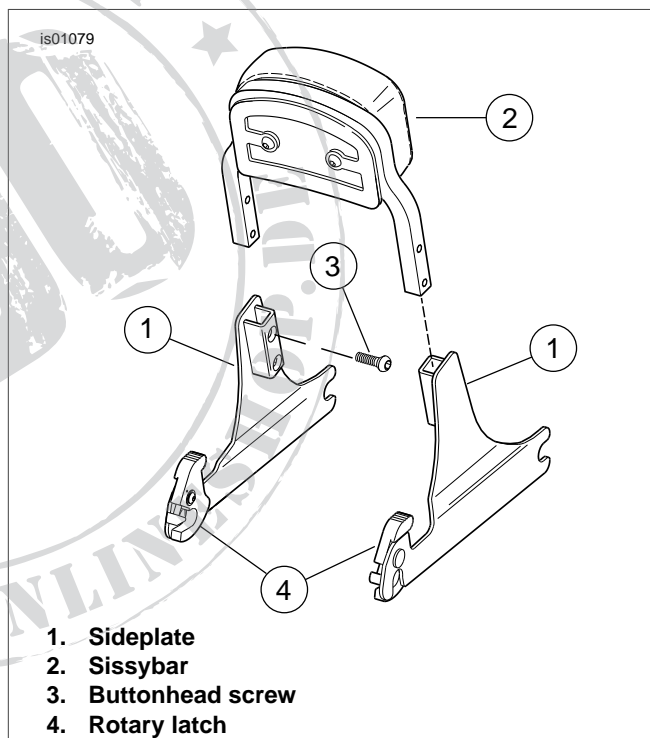

Figure 1. Detachable Sissybar Sideplate Assembly
See Figure 1. Install new or existing sissybar (2) to detachable sideplates (1) using four buttonhead screws (3). Apply Loctite® 262 (red) to screws before installation. Tighten screws to 96-120 in-lbs (11-14 N-m).